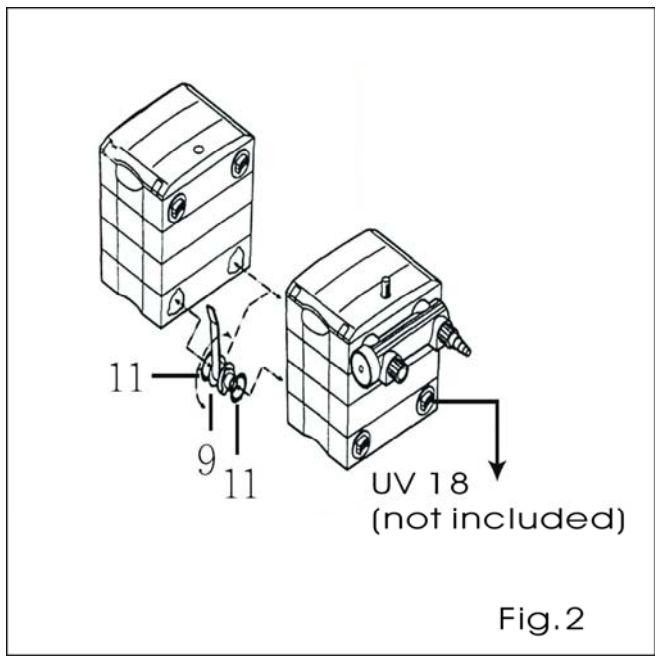

Fig.2
2. Assemble all parts (depending on the type and equipment of your filter system) as shown in Fig.1. The BF1000 is designed as a modular filter system with the capability to increase filtration for larger ponds by combining additional BF1000 modules (See Fig. 2).
3. Connect the pond pump, (Lowe's item # 59892 recommended - Model # PP2000), to the filter inlet (7), or UV clarifier (Lowe's Item # 60031- Model #UV18 (not included), if used. The pump is connected using a 1, 1-¼ in. or 1- ½ in. tube.
5. To ensure optimum performance, operate the filter in combination with the UV clarifier. (See Fig. 2 for mounting the clarifier).